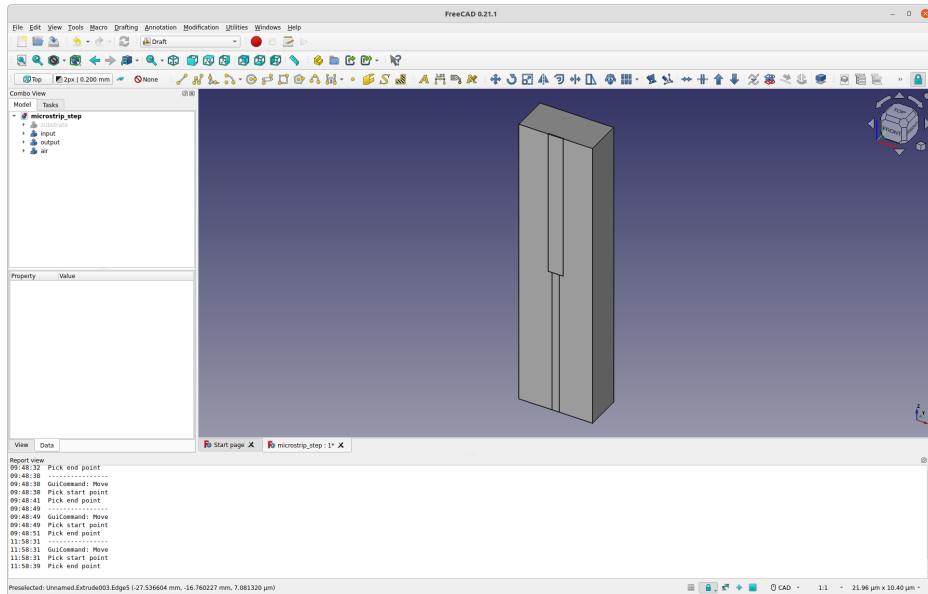

Figure 12: Screenshot of the 3D setup after extrusion and movement of one microstrip segment.
- Change back to the **Draft** workspace, then select `output` and move it $5\ \mu\text{m}$ so that the near end snaps to the far end of `input`. The two microstrip lines should be co-linear and end-to-end, as shown in Fig. 12.